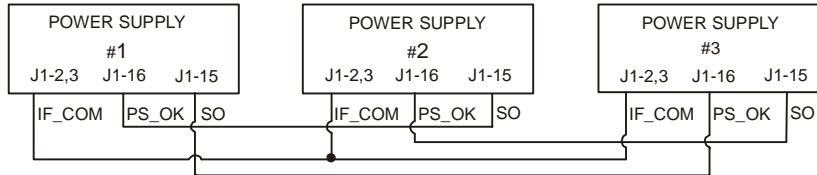

Fig.5-6: Daisy-chain connection
3. Daisy Chain Connection: (See Fig. 5.6)
- Connect J1-2 (or J1-3) common to all supplies (See Fig. 5.6).
- Switch SW1 position 5 should be in its down position for all power supplies (See Fig. 5.6).
- Connect J1-2 (or J1-3) common to all supplies (See fig. 5.6).
Fig.5-6 shows connection of three units, however the same connection method applies to systems with a larger number of units.